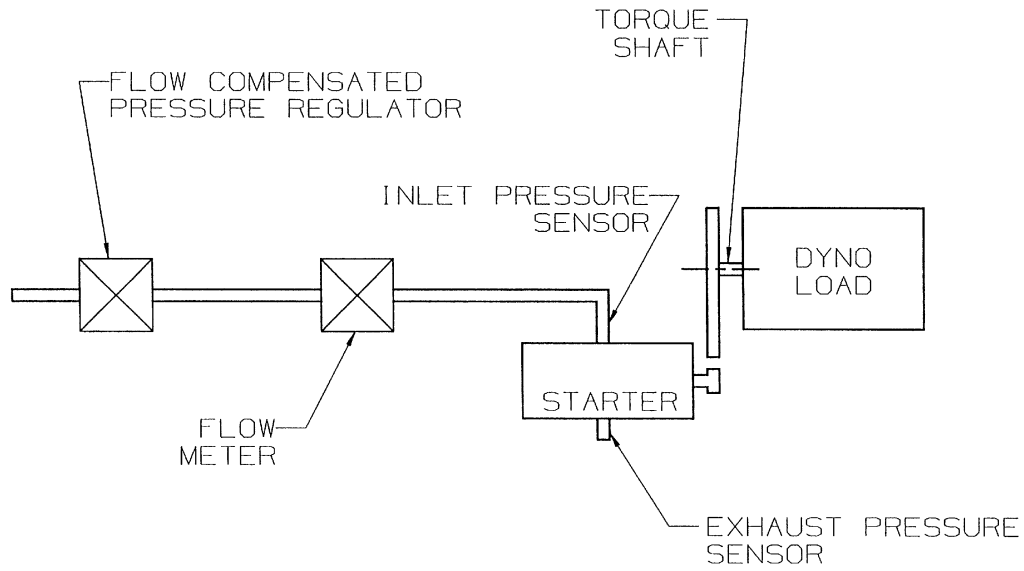

FIGURE 1—STARTER MOTOR PERFORMANCE TEST ARRANGEMENT
3.1 **Testing Procedure**—The starter shall be mounted in a test stand as shown schematically in Figure 1. Performance curves are established by running the starting motor in one of two methods. Method A involves plotting a curve from discrete points while Method B is achieved by operating the motor in a continuous mode while the output is automatically recorded and/or plotted. Deviation from either of these two methods shall be noted on the performance curve. Air pressure shall be measured at the starter inlet port and adjusted as required to maintain a constant value during the entire test. The air pressure should not exceed the recommendation of the manufacturer. All torque measurements should be reflected to the starter output shaft. Ambient air temperature should be recorded. The supply air moisture and lubricant content should be noted. All data shall be reduced to the standard conditions of 1 Bar (14.7 psig) and 21 °C (70 °F).